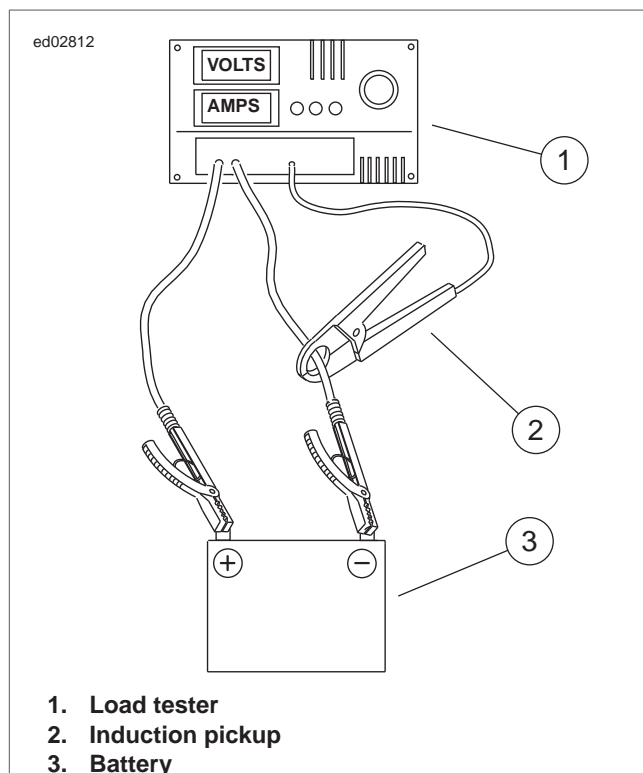

Figure 3-2. Load Test Battery
2. See Figure 3-2. Connect tester leads to battery posts and place induction pickup over negative (black) cable.